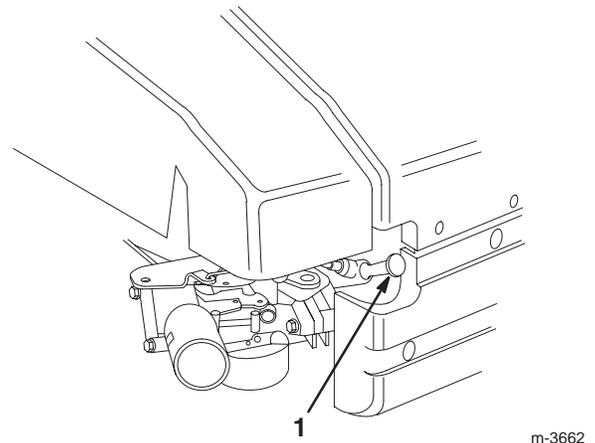

Figure 8
1. Connect the wire to the spark plug (Fig. 8).
2. Disconnect the wire from the spark plug (Fig. 8).